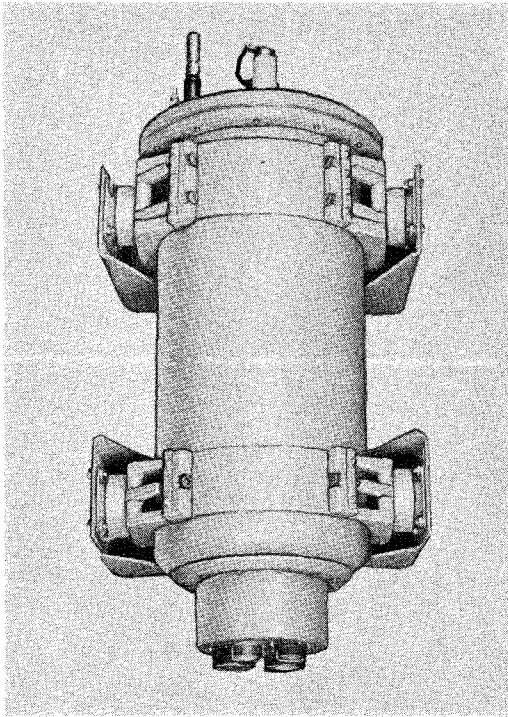

Figure 1-19. Antenna Coupler CU-372/SRT, Side View, Cover On
b. ANTENNA COUPLER CU-372/SRT (ANTENNA COUPLER). (See figures 1-19 and 1-20.)—The antenna coupler has two basic functions: (1) to switch various inductive or capacitive reactance components into the transmission line to extend the range of tuning of the main tuning coil, and (2) to provide a switch that permits the antenna to be connected through the tuning components to the transmitter r-f output or connects the antenna directly to the transmitter r-f output.